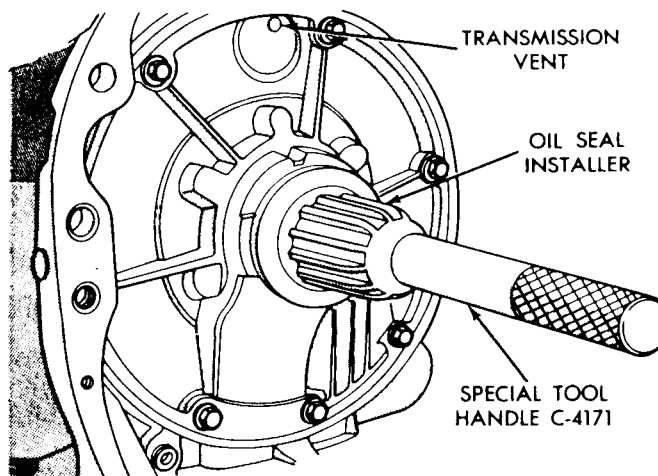

Fig. 3—Install Pump Seal
(2) To install a new seal, place seal in opening of the pump housing (lip side facing inward). Using Tool C-4193 and handle Tool C-4171, drive seal into housing until tool bottoms (Fig. 3).